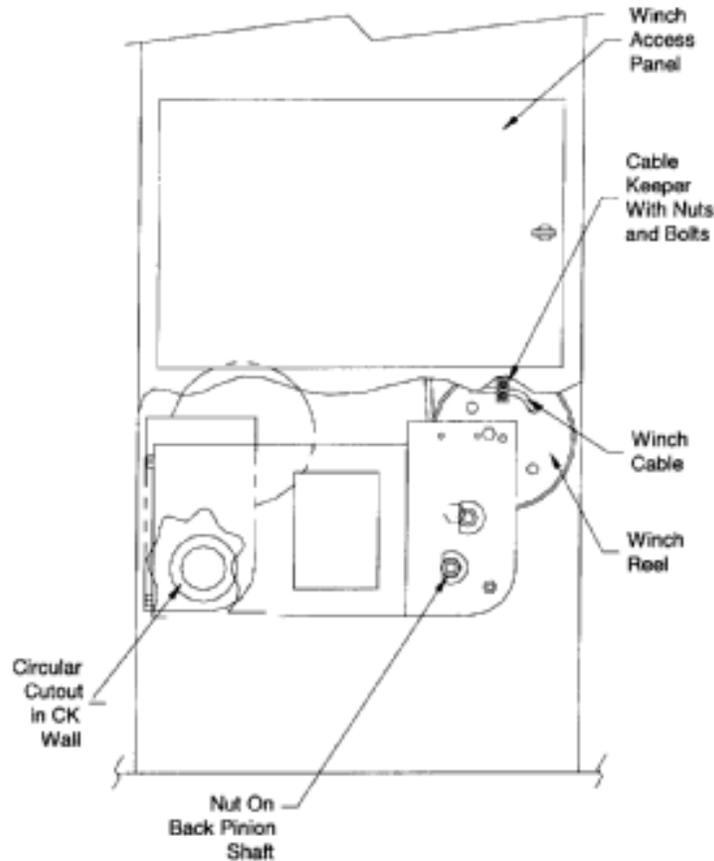

Figure 3. Preparation Side CK Winch Installed/Cable.
5. Place the winch assembly on the CK floor. Remove winch handle, winch socket, and winch socket hex screw and retain for installation of the replacement winch. Use a 7/16" socket on the hex head screw, while securing the pinion shaft to hold it steady (refer to Figure 3). Twist off the winch socket and retain for installation on the new winch assembly.
- Refer to Figure 3. Manually unwind the cable completely from the reel and expose the hex nuts. Remove the two hex nuts from the cable keeper that secures the winch cable to the outside of the reel. Retain nuts, carriage bolts and cable keeper. Pull the winch cable from the winch reel and place cable on the floor of the CK. Do not allow the cable to become tangled or kinked.